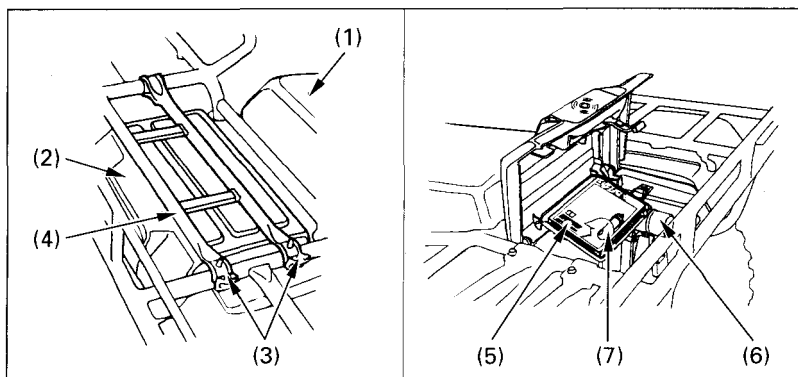

Fig. 2-23 (1) Seat (2) Storage compartment (3) Rubber straps (4) Rear rack (5) Owner's manual (6) Tool kit (7) Air pressure gauge
The storage compartment (Fig. 2-23) is behind the seat. To open the compartment, unhook the rubber straps (3) and lift the rear rack (4). The owner's manual (5), tool kit (6), and air pressure gauge (7) should be stored in the storage compartment (2).